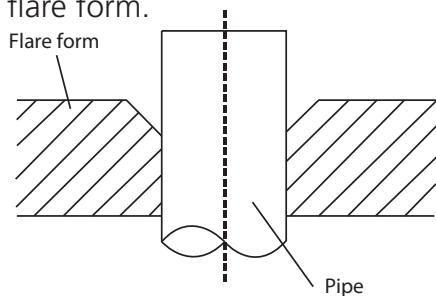

**Fig. 7.4**
- Place flare nuts on both ends of the pipe. Make sure they are facing the right direction because you can't change their direction after flaring. (See Fig. 7.4)